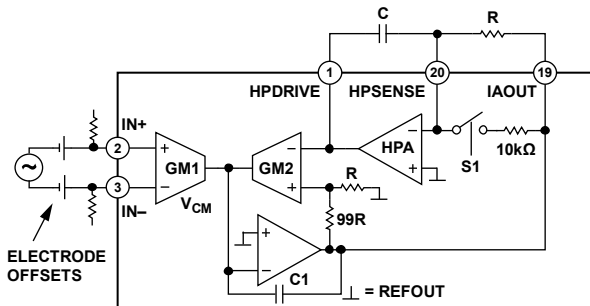

Figure 53. Eliminating Electrode Offsets
Radio frequency (RF) rectification is often a problem in applications where there are large RF signals. The problem appears as a dc offset voltage at the output. The AD8232 has a 15 pF gate capacitance and 10 k Ω resistors at each input. This forms a low-pass filter on each input that reduces rectification at high frequency (see Figure 53) without the addition of external elements.
To achieve offset rejection, connect an RC network between the output of the instrumentation amplifier, HPSENSE, and HPDRIVE, as shown in Figure 53.